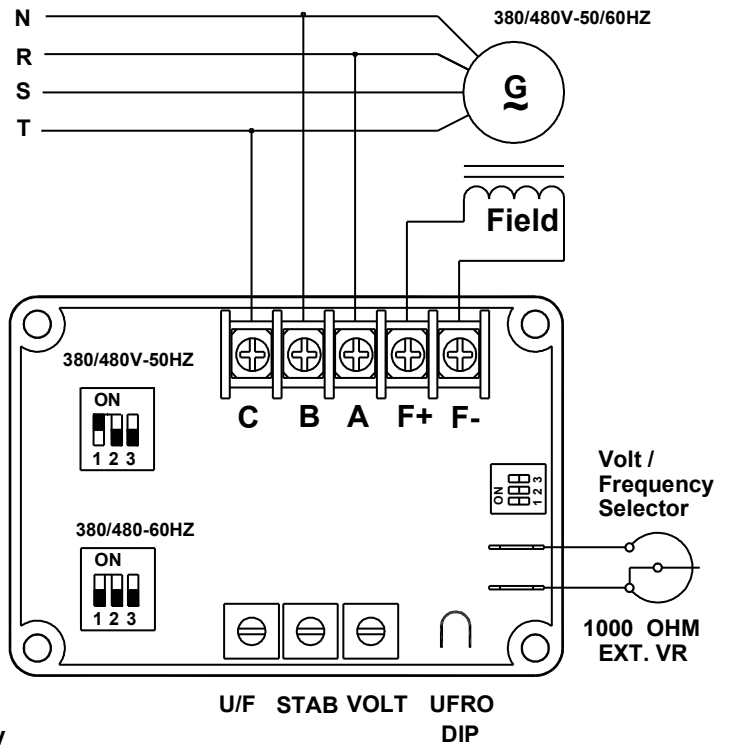

Fig. 4
2. When the voltage of the generator is 380-480V, the **power** input terminals B & C and **sensing** terminals A & C are connected separately (as shown in Figure 4 or figure 5). Power inputs B & C must never exceed 300 VAC.